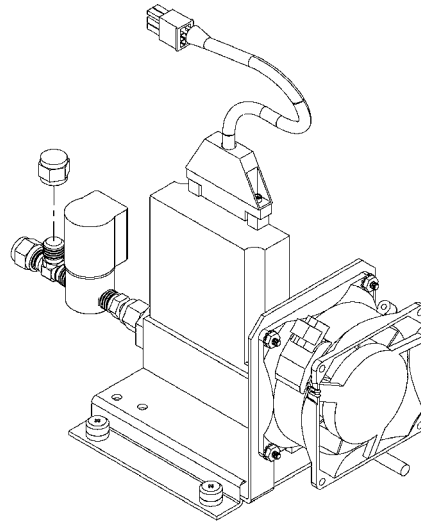

Figure 7-4. Replacing a Mass Flow Controller
Use the following procedure to replace a mass flow controller (Figure 7-4).
3. Disconnect electrical connections from the top of the flow controllers noting their positions for reconnection (Figure 7-4).